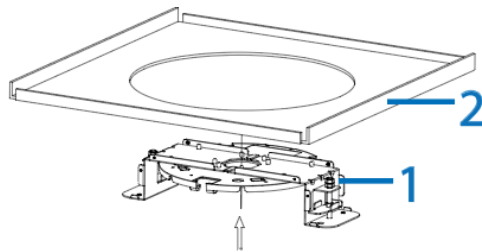

Figure 5
5. Insert the recess mount brackets with mounting plate (1) (Figure 5) up into the hole in the ceiling tile (2) (Figure 5).